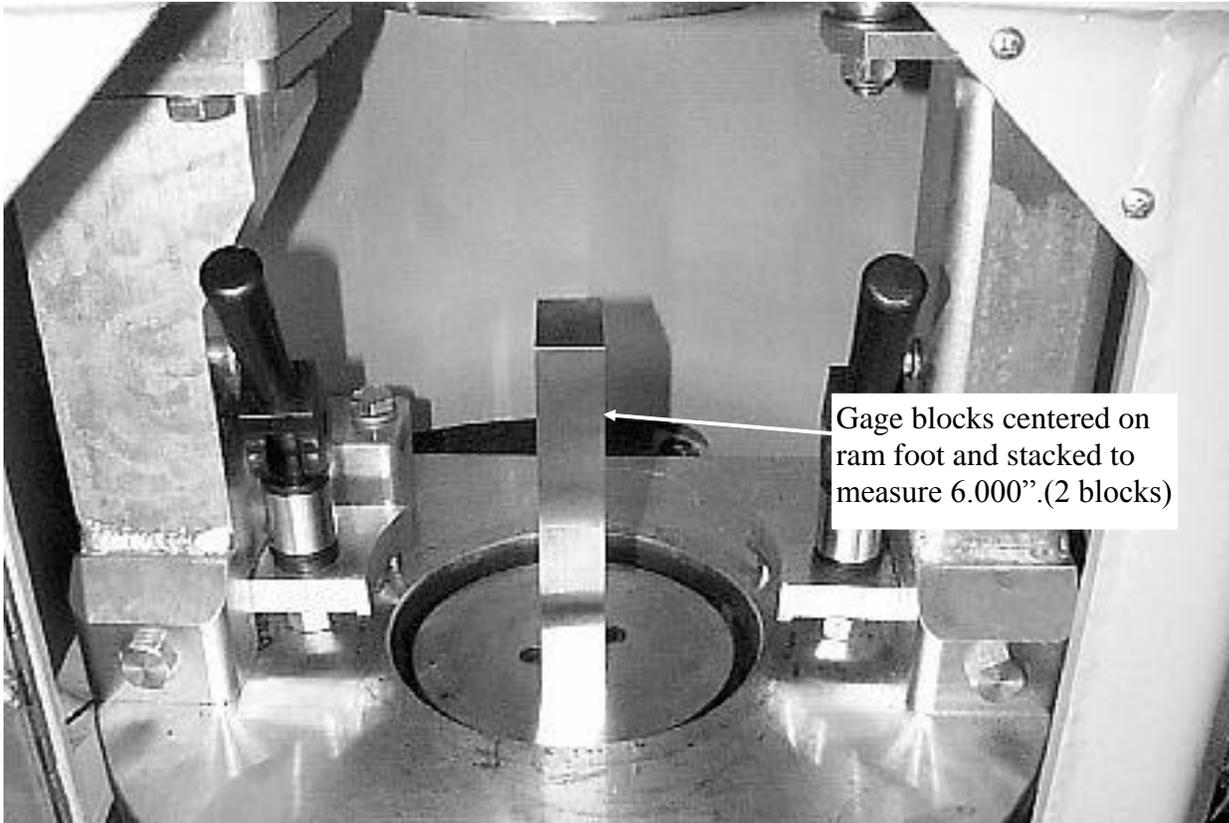

Figure 6.3: Gage Block Placement
- Place the gage blocks into the compaction chamber configured for 152.4 mm (6.000 inch). (Figure 6.3)